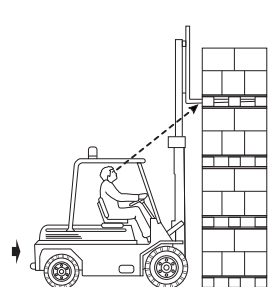

Figure 9
- Fully insert the fork arms by slowly driving forward until the heels of the forks gently touch the load or pallet base, and apply the parking brake, selecting neutral if applicable (Figure 9);